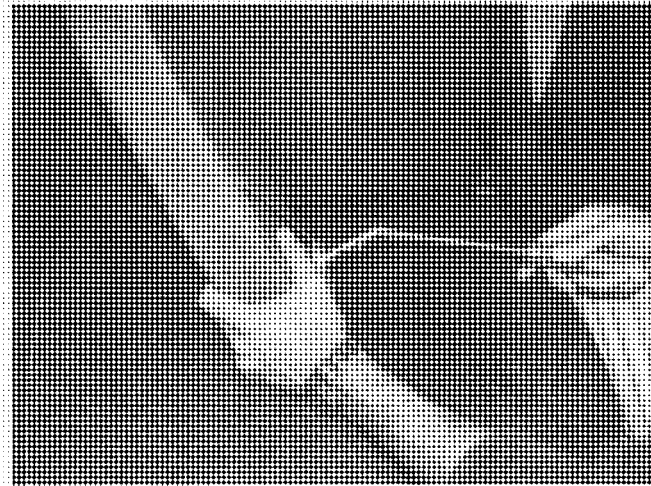

FIGURE 4.
- c. Twist the screwdriver to depress the retaining button located in the arm rest tube. See FIGURE 4.